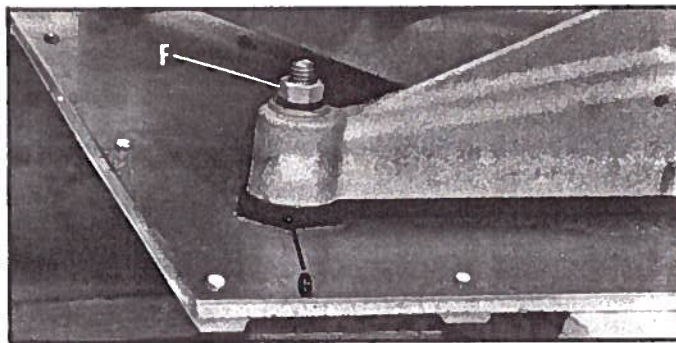

Fig. 30
5. Loosen the four hex nuts (F) Fig. 30. Four leveling screws are provided, one of which is shown at (G). Adjust leveling screws as necessary to make the platen parallel to the saw blade. This is always a four point adjustment. Never adjust one point or two points diagonally as this might put stress on the platen causing it to twist.
6. When you are certain the platen is parallel with the saw blade, tighten the four hex screws (F) Fig. 30.